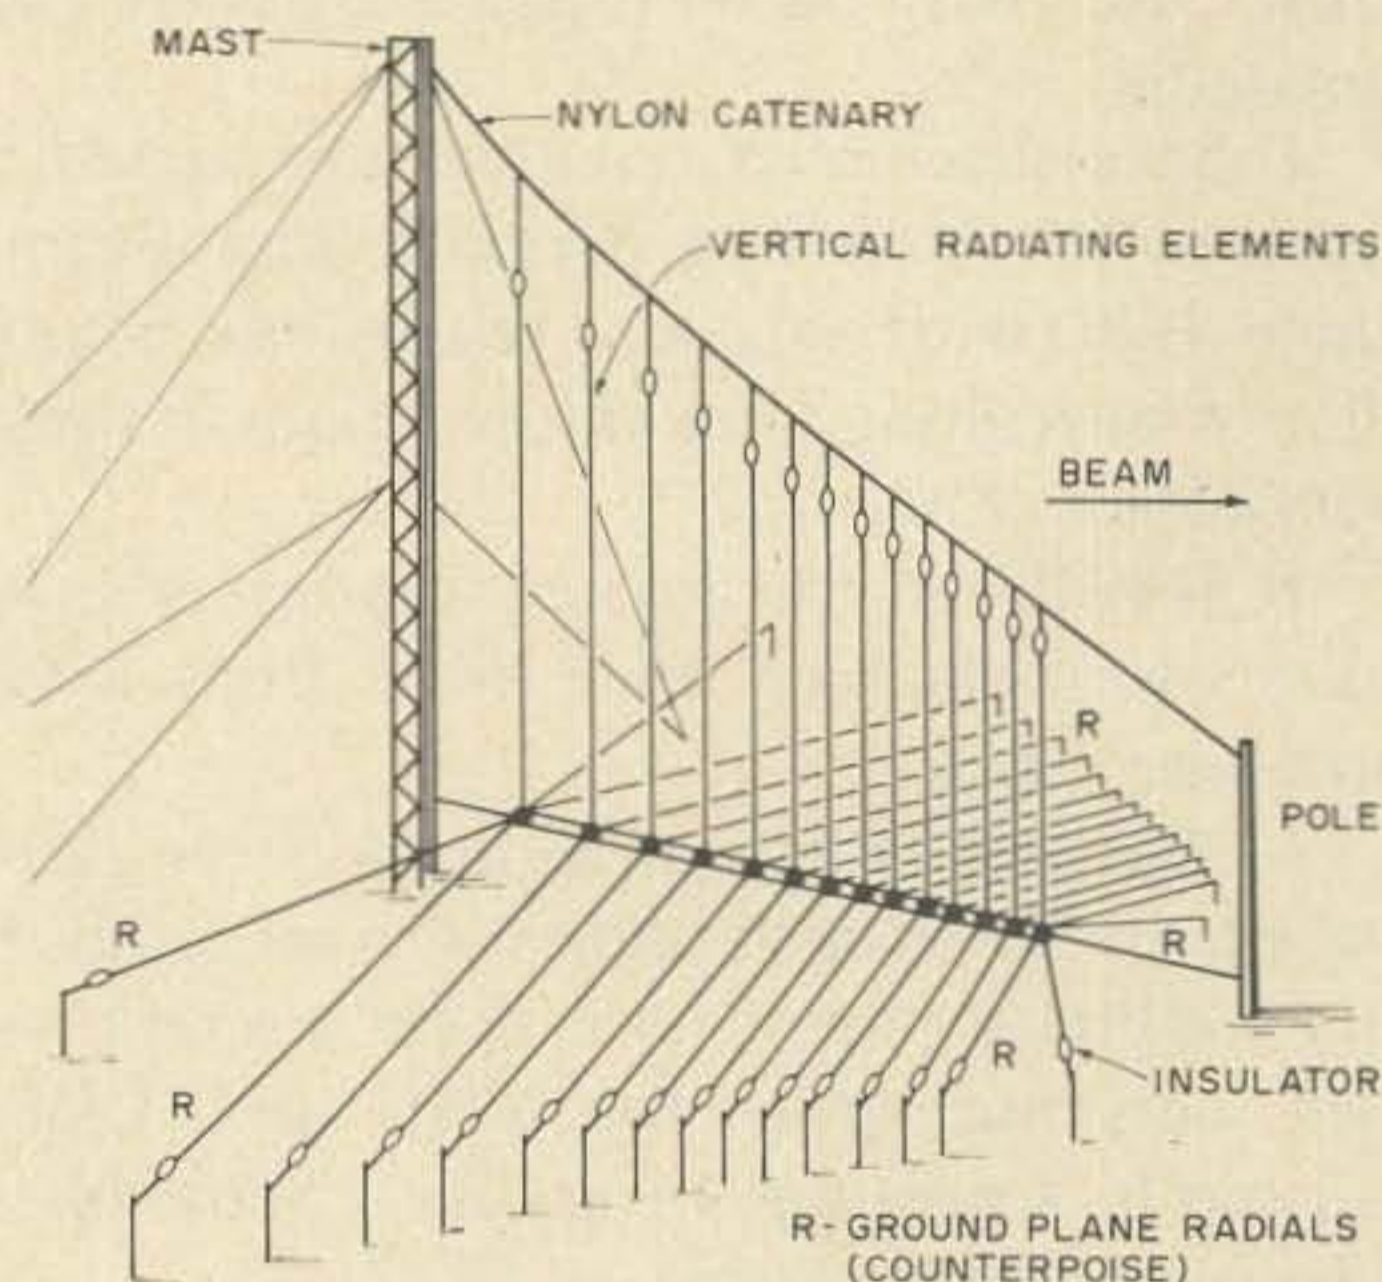

Fig. 2. Vertical monopole log periodic - 2:1 bandwidth.
2) The vertical monopole Log Periodic working against ground or a ground plane counterpoise. Fig. 2 illustrates this type, also covering a 2:1 band width.